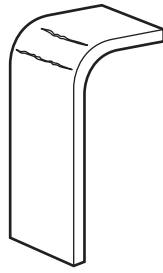

Fig. 6
- 7 Fig. 6 shows a piece of steel that has cracked due to work hardening during bending.